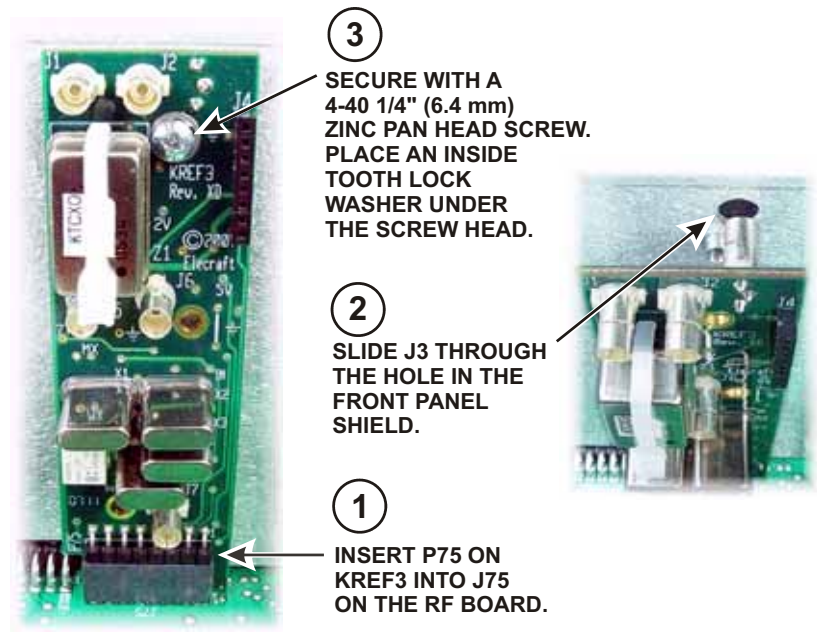

Figure 58. Installing KREF3 Board.
□ Install the KREF3 board on the back side of the front panel shield as shown in Figure 58. The KREF3 board plugs into J75 on the RF board. Be sure you have the KREF3 board connector aligned with J75 so that all the pins mate with the connector.